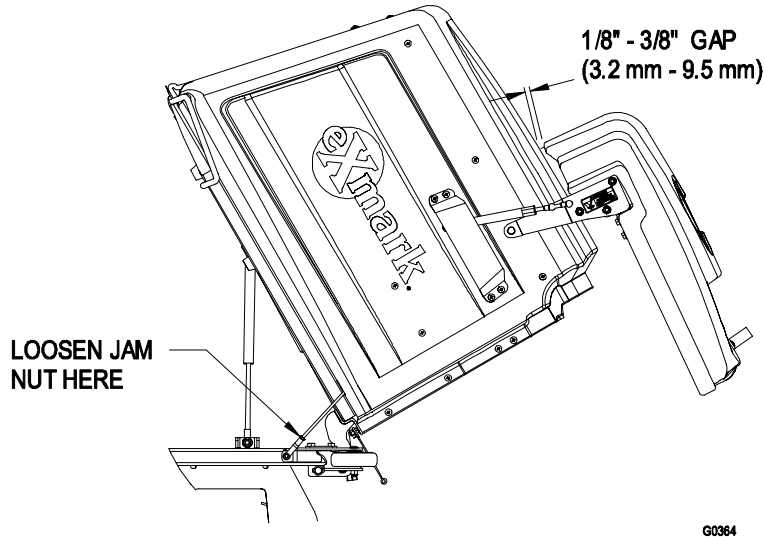

FIGURE 22
- a) Locate the hopper door cables. Loosen the jam nut next to the yoke at the end of the hopper door cable/shaft assembly on each side and rotate the shaft until the rear door has a clearance of 1/8"-3/8". See Figure 22.